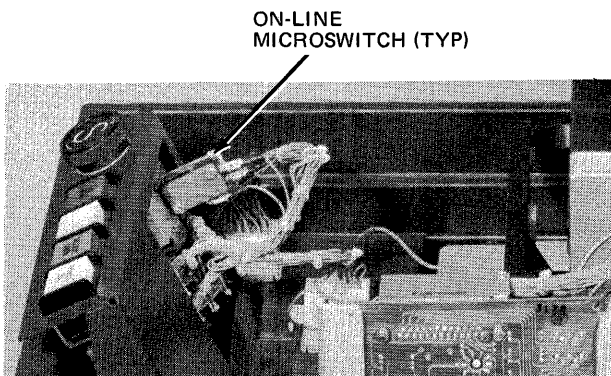

Figure 2-3. On-Line Microswitch Location
- b. Observe that on-line microswitch contacts (Figure 2-3) close approximately 1/8-inch before plug is fully seated.